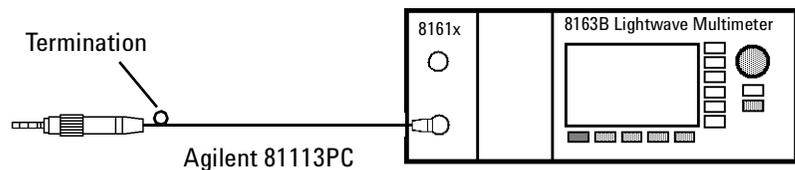

Figure 97 Termination Calibration - Internal Source
- or Figure 97 if you are using an internal source (Agilent 81611A/2A/3A/4A Return Loss modules only).